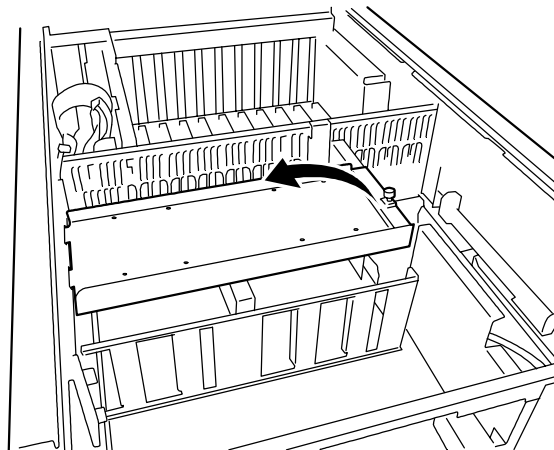

Figure 4-8. Removing the CPU Cover
5. Loosen the thumbscrew securing the CPU cover and remove the cover, see Figure 4-8.